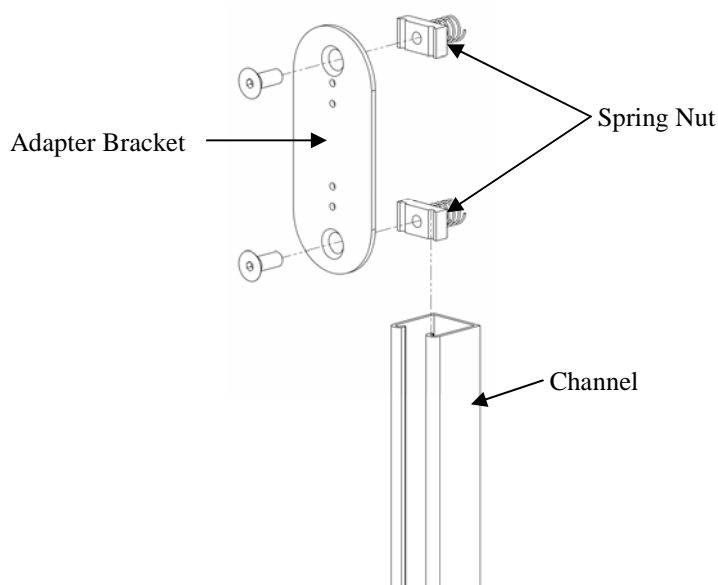

Figure 2
1. Insert two spring nuts into Unistrut channel at desired height (see Figure 2).